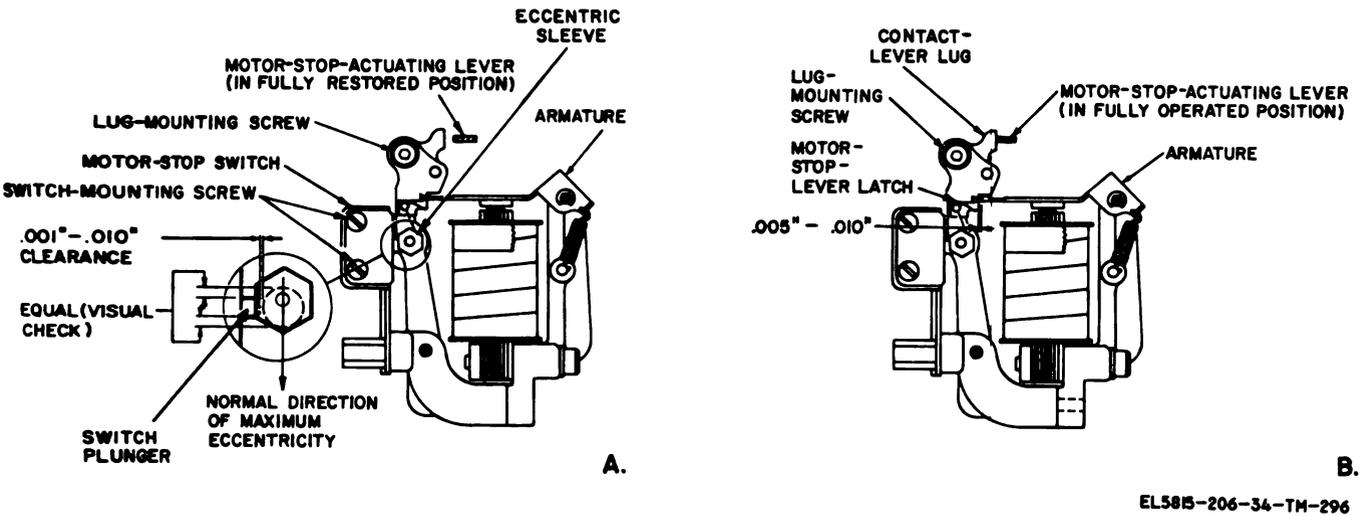

Figure 3-224. Motor-stop switches, eccentric sleeves, and contact lever lug adjustments (TT-4B/TG, TT-4C/TG, TT-335/TG, and TT-537/G).
- (1) Maximum eccentricity of the eccentric sleeves should be in the direction shown in A, figure 3-224.
- (2) Each switch plunger should be centered with its sleeve (visual check) and a .010-inch maximum clearance should be present between the plunger and its associated sleeve when the contact lever and armature are as shown (A, fig. 3-224).
(B, fig. 3-224)
0.010-inch clearance between each eccentric sleeve and its associated switch plunger when the contact-lever is in the maximum clockwise position (A, fig. 3-224).